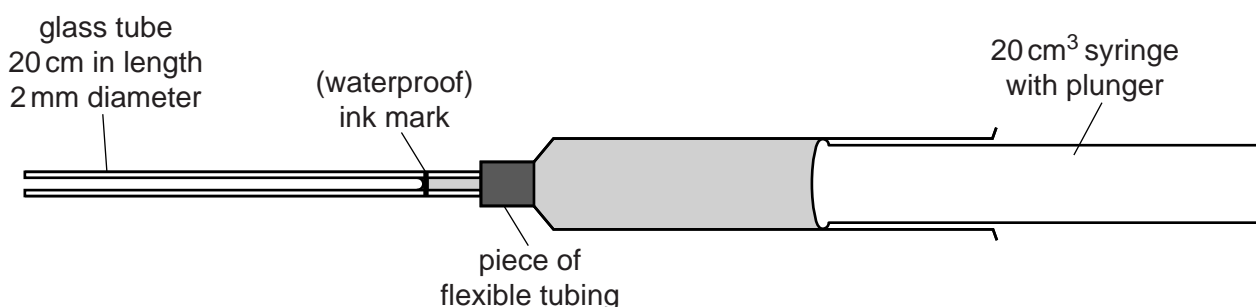

Fig. 1.1
- (vii) 2 × glass tubes, approximately 20 cm in length, 2 mm internal (bore) diameter, each attached to a piece of flexible tubing about 2 cm in length, as shown in Fig. 1.1. A ring needs to be drawn using waterproof ink 10 mm below the rubber tubing. The rubber tubing should be thin and used to join the glass tubing to the base of the labelled syringe.